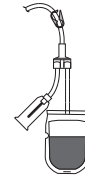

Figure 1: Sample/diversion bag
7. Position the sample/diversion bag with blue clamp [B] at the top and the sample tube holder/luer adapter at the bottom (see Figure 1). Allow the desired volume of whole blood to flow into the sample/diversion bag. The nominal volume of the sample bag is 60 mL. When the volume reaches the marking, approximately 40 mL has been collected.